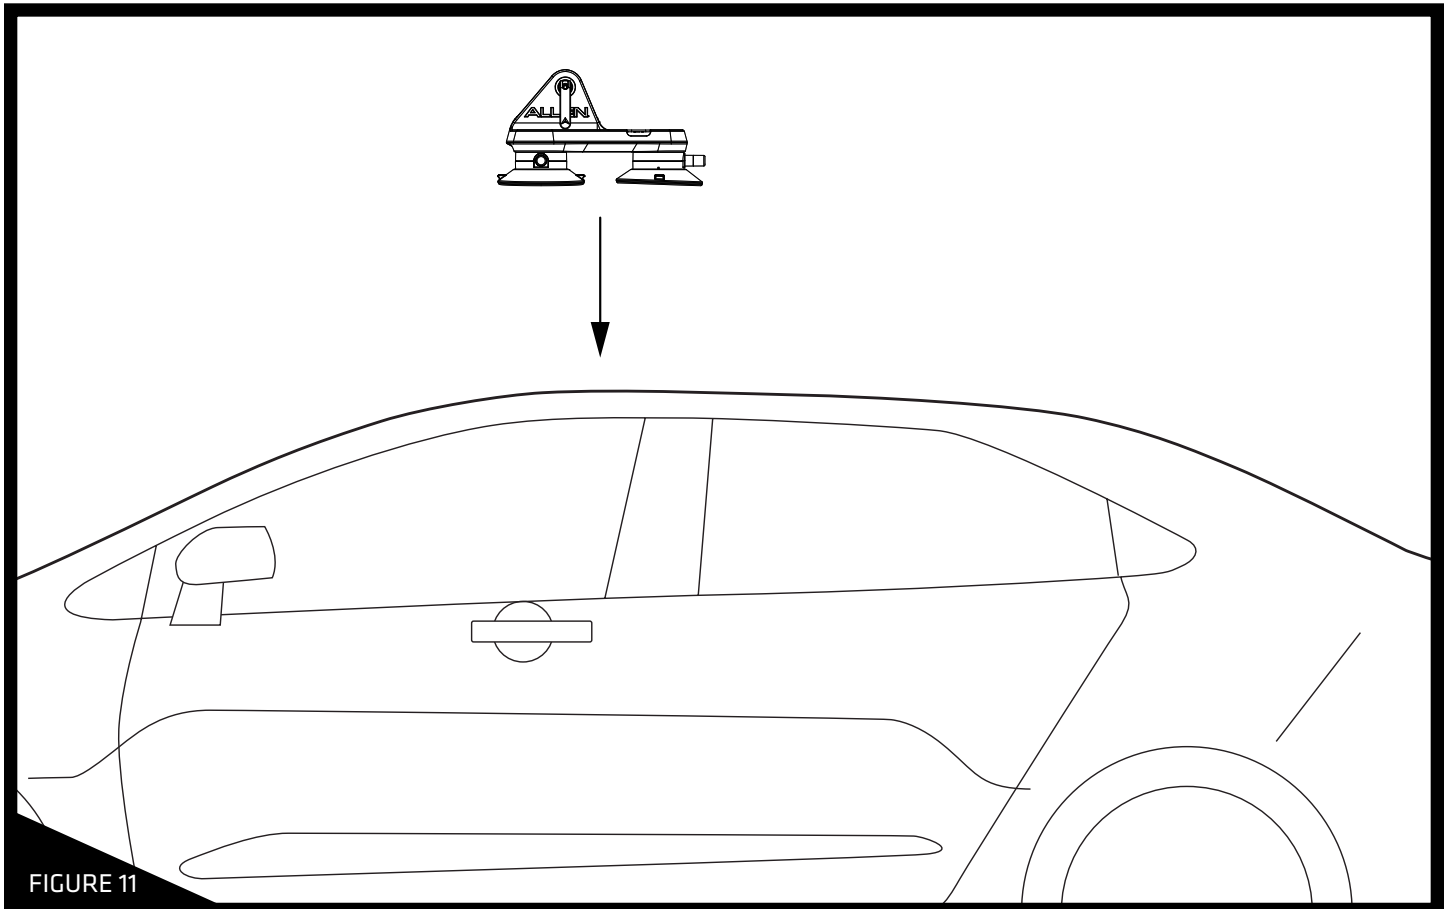

FIGURE 11
STEP 3: Place the Front Assembly onto the vehicle facing forward in the desired location as shown in **Figure 11**.